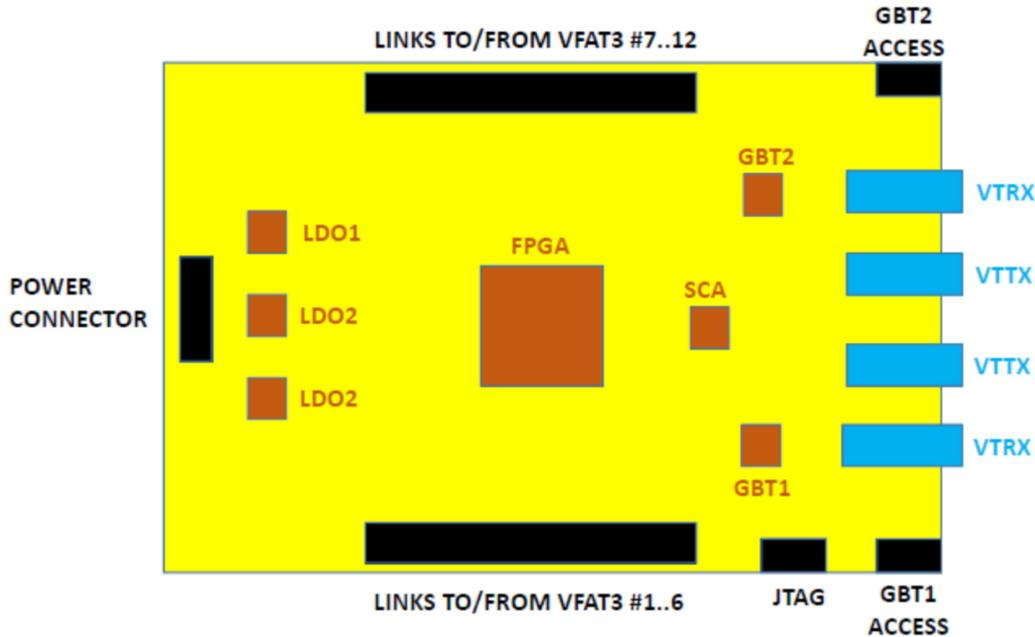

Figure 5: Schematic of the OH [6].
The Optohybrid (OH) provides a means of communicating with the Very Forward ATLAS and TOTEM (VFAT3) application specific integrated circuit (ASIC) hybrid cards mounted on the GEB and the backend electronics. Each module of the GE2/1 will have its own OH board. This OH board was redesigned from the previous incarnation for the GE1/1 GEM detector to better accommodate the needs of the modular GE2/1 GEM detector. It features an Artix-7 [3] field programmable gate array (FPGA) and two gigabit transfer (GBTx) ASICs [4], which communicate via the Versatile Link Transmitter/Receiver (VTRx) and the Versatile Link Dual Transmitter (VTTx) (see Fig. 5 below). The two VTTx serve as trigger paths for the GEM and cathode strip chamber (CSC) triggers, and the VTRx is a transceiver (bidirectional), used for communication between the backend and frontend electronics. The GBT Slow Control ASIC (GBT-SCA) is dedicated solely to slow control applications (see [5]).
The first GBT (GBT0 in the software; GBT1 in the diagram in Fig. 5) communicates with VFATs 1-6 and also the GBT-SCA. If communication is not established with this GBT, communication will not be able to be established with GBT1¹⁾. GBT1 (GBT2 in the diagram in Fig. 5), communicates with VFATs 7-12. The VTRx transceivers connect these GBTs to the backend electronics.